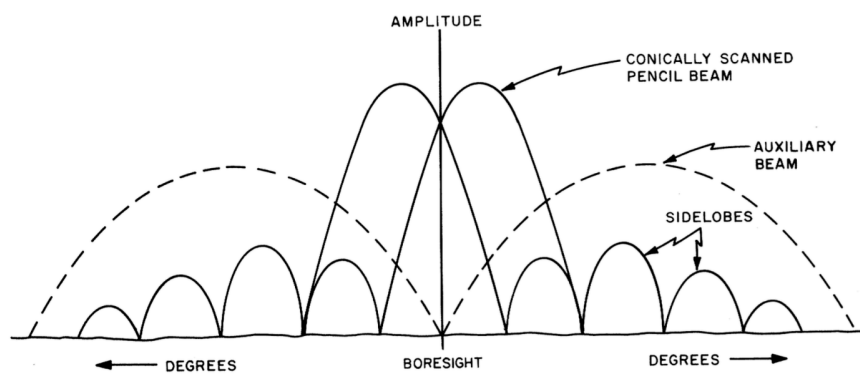

Figure 3: TALAR LOCALIZER ANTENNA PATTERNS
- 1) The main feature in Figure 3 is the sharply focused main beam, called a pencil beam, which moves in a cone shape to guide the aircraft precisely.